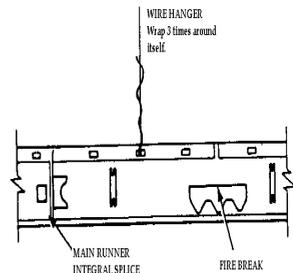

Fig.6
- Lock into place next Main Runner and continue as previous ensuring each Main Runner is level, that Fire Splices are NOT adjacent to each other and a hanger wire is close to each Main Runner Joint/Fire Splice. (See fig. 6)